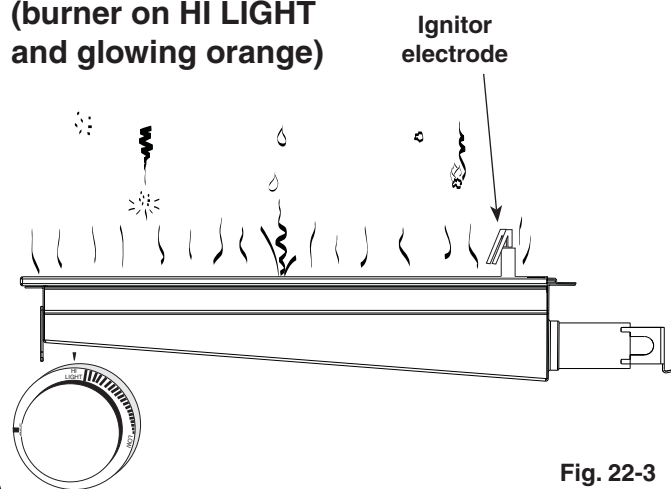

Fig. 22-3
- **DO NOT place food on the cooking grid until the IR burner glows orange (Fig. 22-3).** Drippings are heated and evaporate instead of sticking to and impairing burner function.